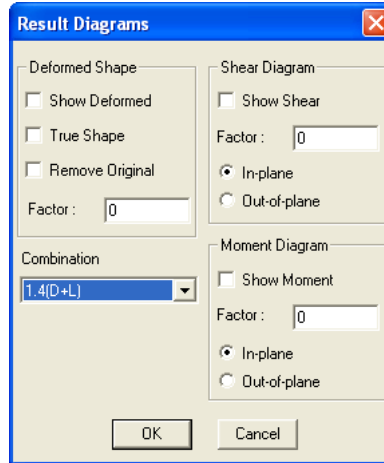

Figure 3-50 Results Diagrams dialog box
- From the **Show** menu, select **Result Diagrams**. The dialog box of Figure 3-50 appears.